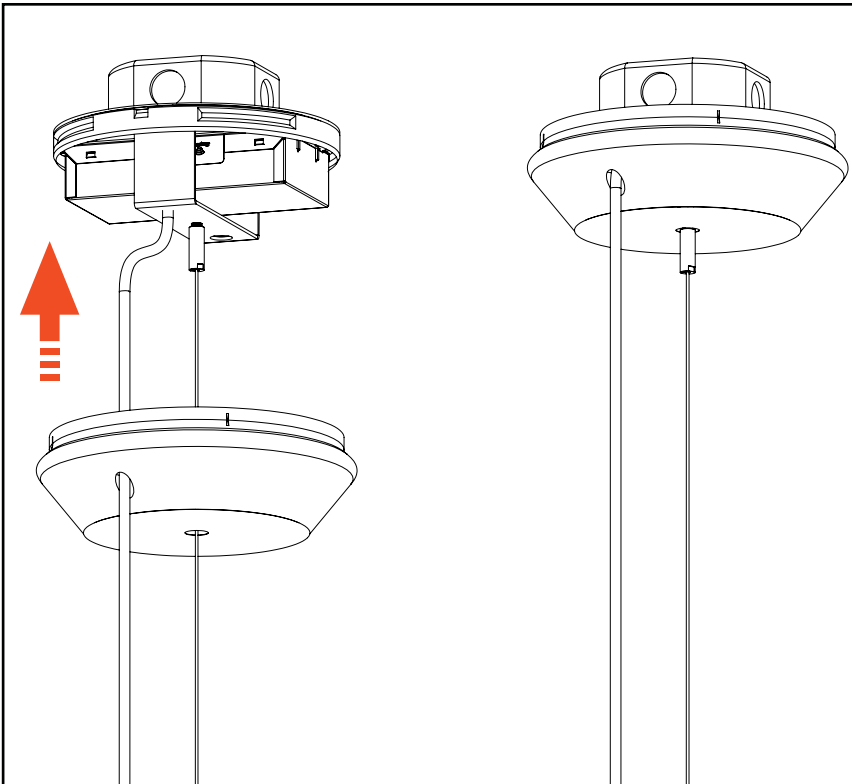

Figure 10
12. Secure back canopy by making sure that low voltage power cord exit in canopy matches with the wire hole in the hold plate and **Aircraft Cable (L)** is passing through the center hole, Press the **Canopy Cover (H)** against the **Canopy Plate (B)**. (Figure 10)